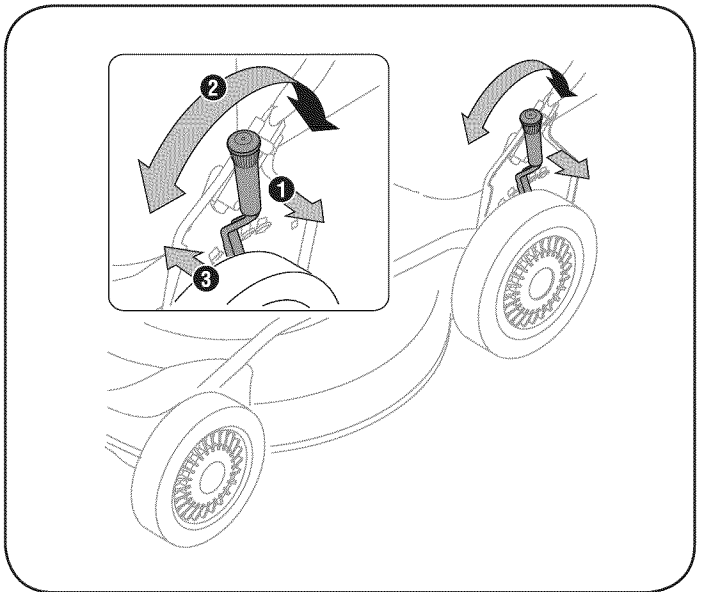

Figure 7
2. Move lever to desired position for a change in cutting height. See Figure 7.